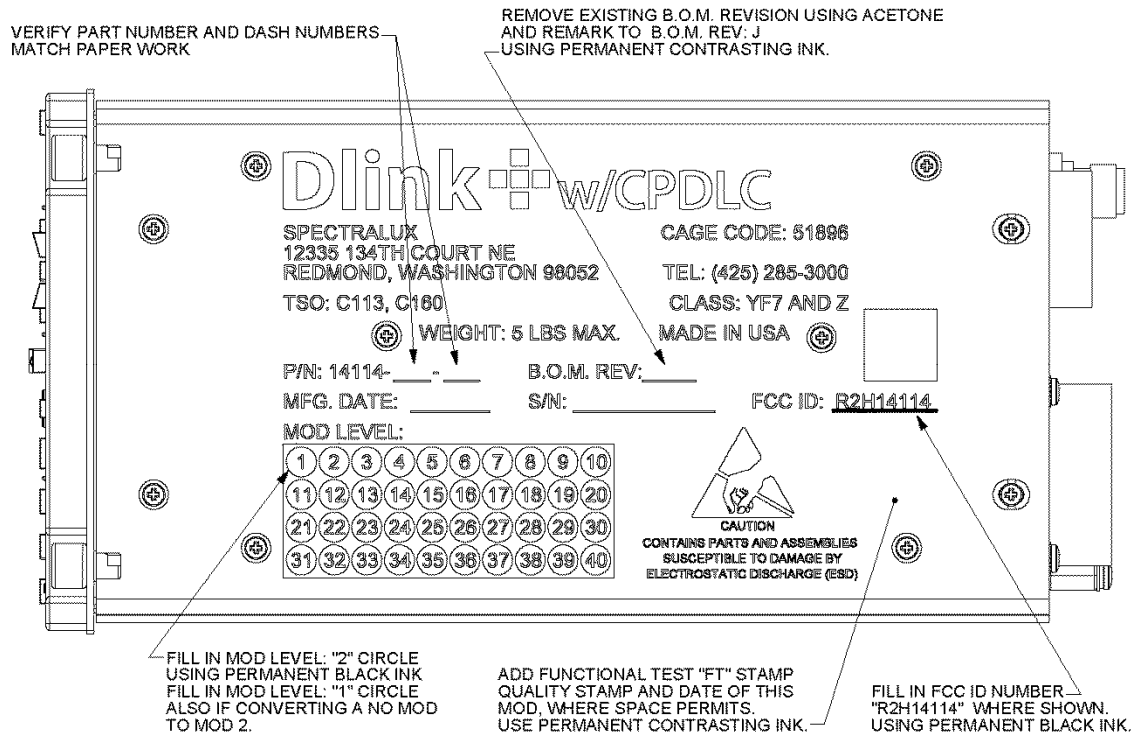

Figure 5. Label Marking
- (1) If all tests passed, mark the unit label according to **Figure 5. Label Marking**.
- (2) Complete and archive the automated test results and Conversion Results worksheet from **6. WORKSHEET**.
- (3) Place unit in service if all results on the Conversion Results worksheet are PASS, YES, or NA.
- (4) END